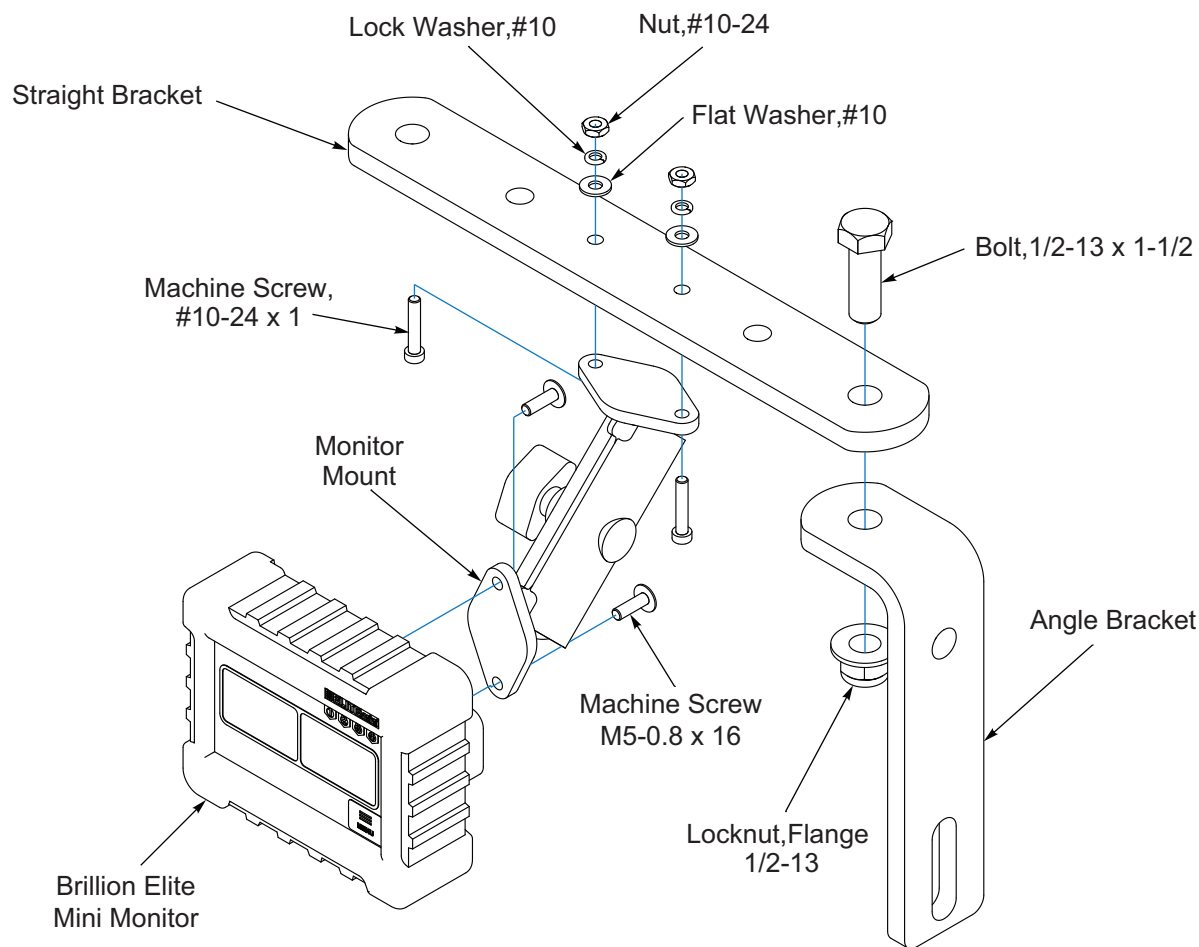

Figure 2-31: Brillion Elite Mini Monitor Tractor Installation - Optional
1. Mount Angle Bracket onto Tractor where convenient for the operator. **See Figure 2-31.**